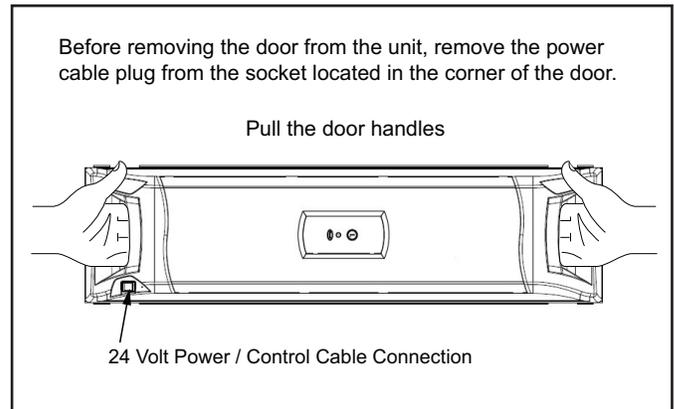

Fig. 3
**Handle the door only by using the handles on the front of the door. Grasp the door by the handles as depicted in Figure 3 to remove and replace the door. Do not handle the door on the edges. Metal edges may be sharp and could result in injury if the door is not handled properly.**